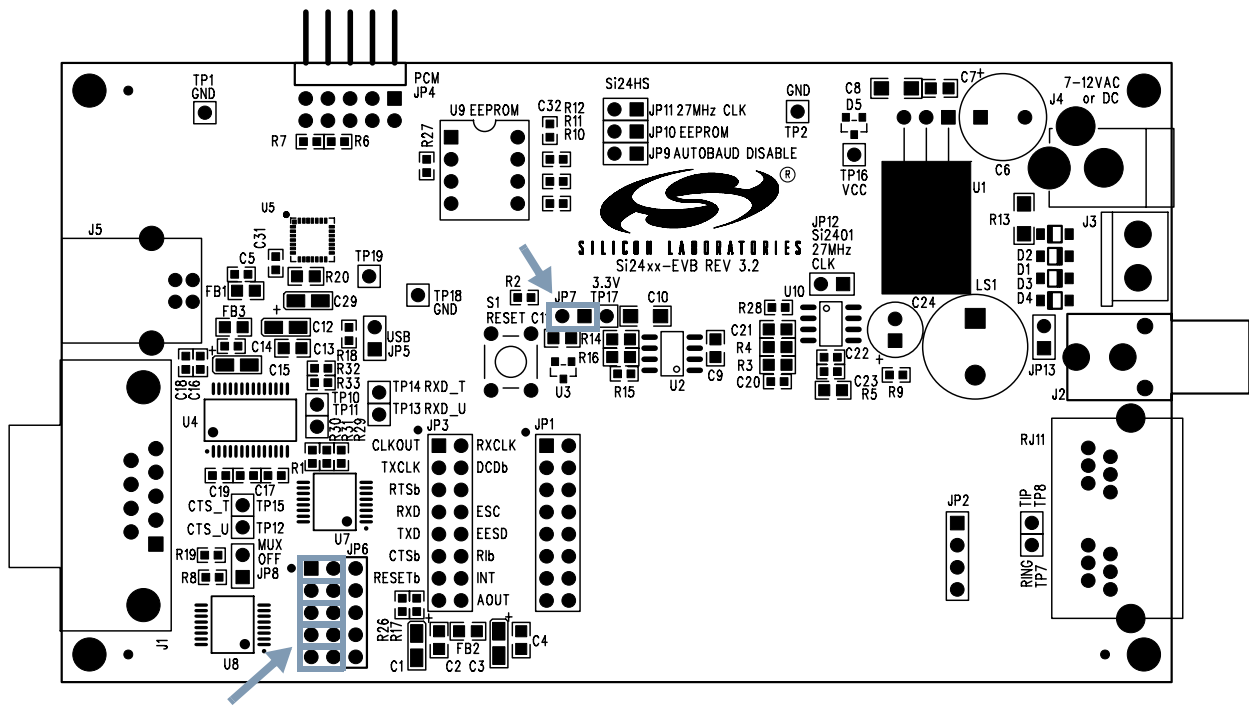
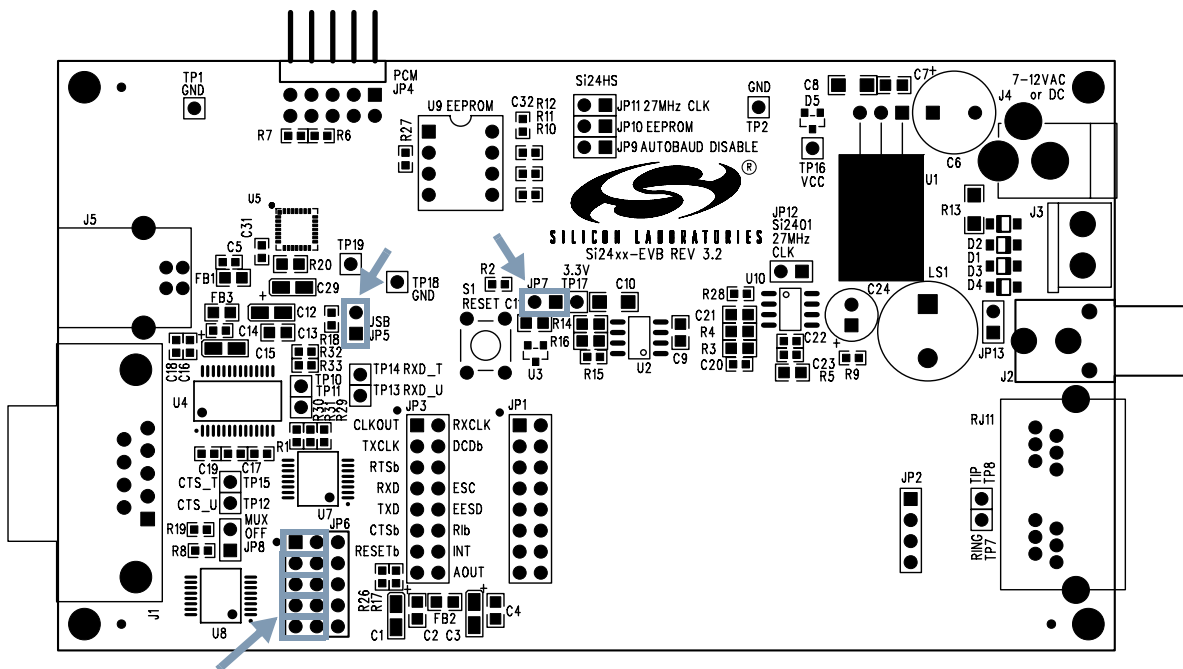

Figure 1. Standard Factory Jumper Settings—RS-232 Interface (Outlined in Gray)
Figure 2. Standard Factory Jumper Settings—USB Interface (Outlined in Gray)
1. Set jumpers according to Figure 1.
1. Set jumpers according to Figure 2.
Check all jumper settings on the Si2456/33/14/03URT-EVB before applying power. Figure 1 shows the standard factory jumper settings. These settings configure the Si2456/33/14/03URT-EVB for RS-232 serial operation with autobaud. Any standard terminal program configured to communicate through a PC COM port can be used to communicate with the Si2456/33/14/03URT-EVB. Figure 2 shows jumper settings for USB operation. The only difference between RS-232 and USB jumper settings is that JP5 must be installed to enable USB.
This operation mode uses the standard factory jumper settings illustrated in Figure 1 on page 3. The Maxim MAX3237 transceiver interfaces directly with the TTL levels available at the serial interface of the Si2456/33/14/03 and, using internal charge pumps, makes these